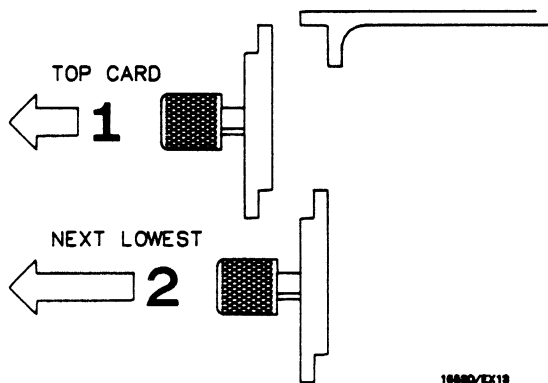

Figure 2-1. Endplate Overhang
- Starting **from the top**, begin pulling card(s) and filler panel(s) out **half way**. See figure 2-1.